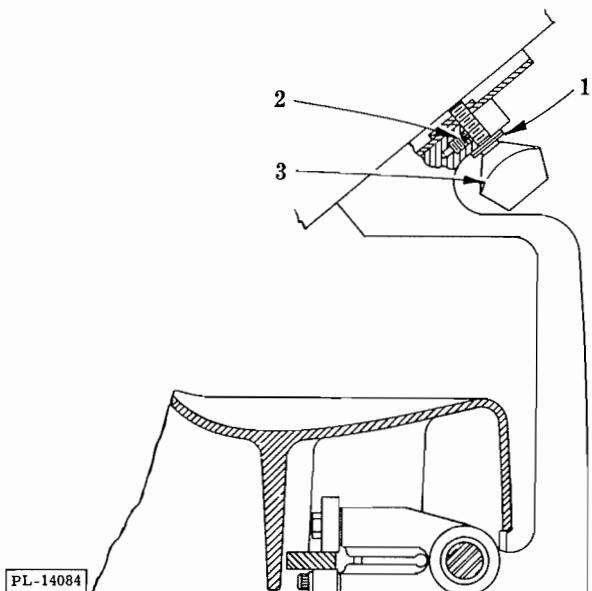

Fig. 7
The carriage tray assembly can be taken off as a unit by loosening the thumb screw (3, Fig. 7) and sliding off the assembly out of the "V" support. Care should be used in order to prevent the tray from striking and damaging the knife edge. The carriage tray knife clearance may be changed by adjusting the self-locking set screw (2, Fig. 7) to suit.
**CAUTION:** When reinstalling carriage tray, the two washers (1, Fig. 7) must be on the outside next to the thumb screw to fit properly.